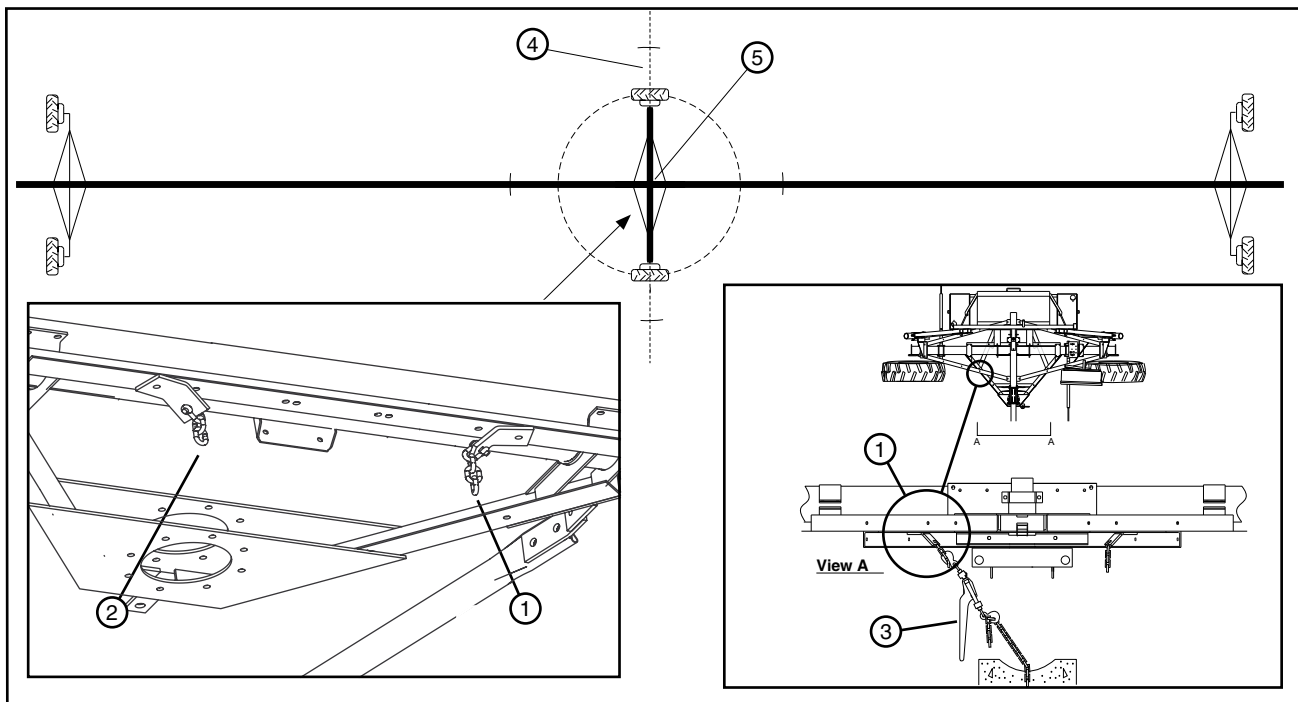

Figure 74-3 Concrete Anchor Method.
6. When the machine is started it will pivot around the center of the base beam. See figures 74-3